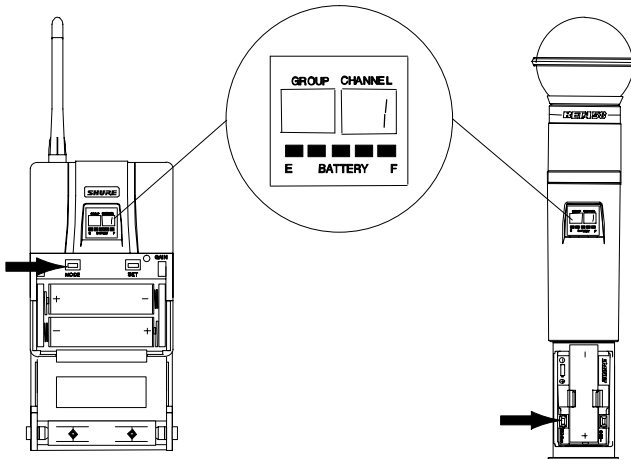

FIGURE 40
5. Press the MODE button again so that only the Channel number displays, as shown in Figure 40.